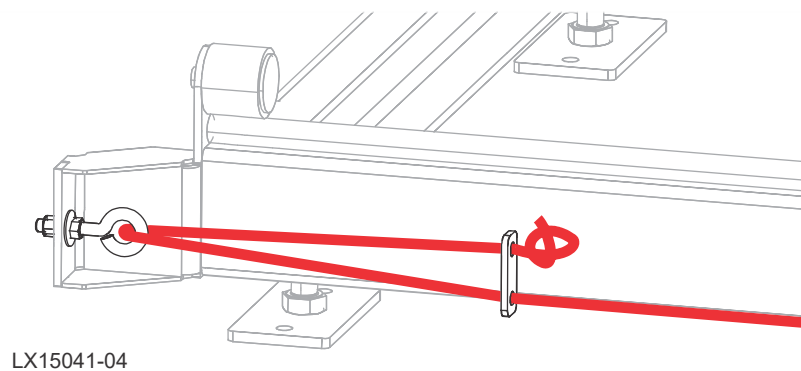

FIG. 3-18
5. Assemble the feed rope eyebolt in the rear bumper bracket as shown in Figure 3-18.
6. Thread the feed rope through the rope lock plate, the eyebolt, and back through the plate as shown in Figure 3-18.
See Figure 3-18.